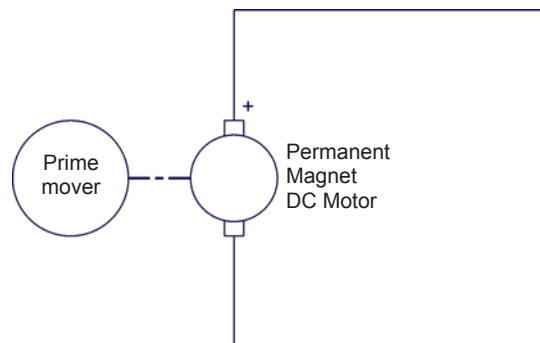

Figure 12. Prime mover coupled to a permanent magnet dc motor operating as a generator (short-circuited output).
31. Connect the equipment as shown in Figure 12.